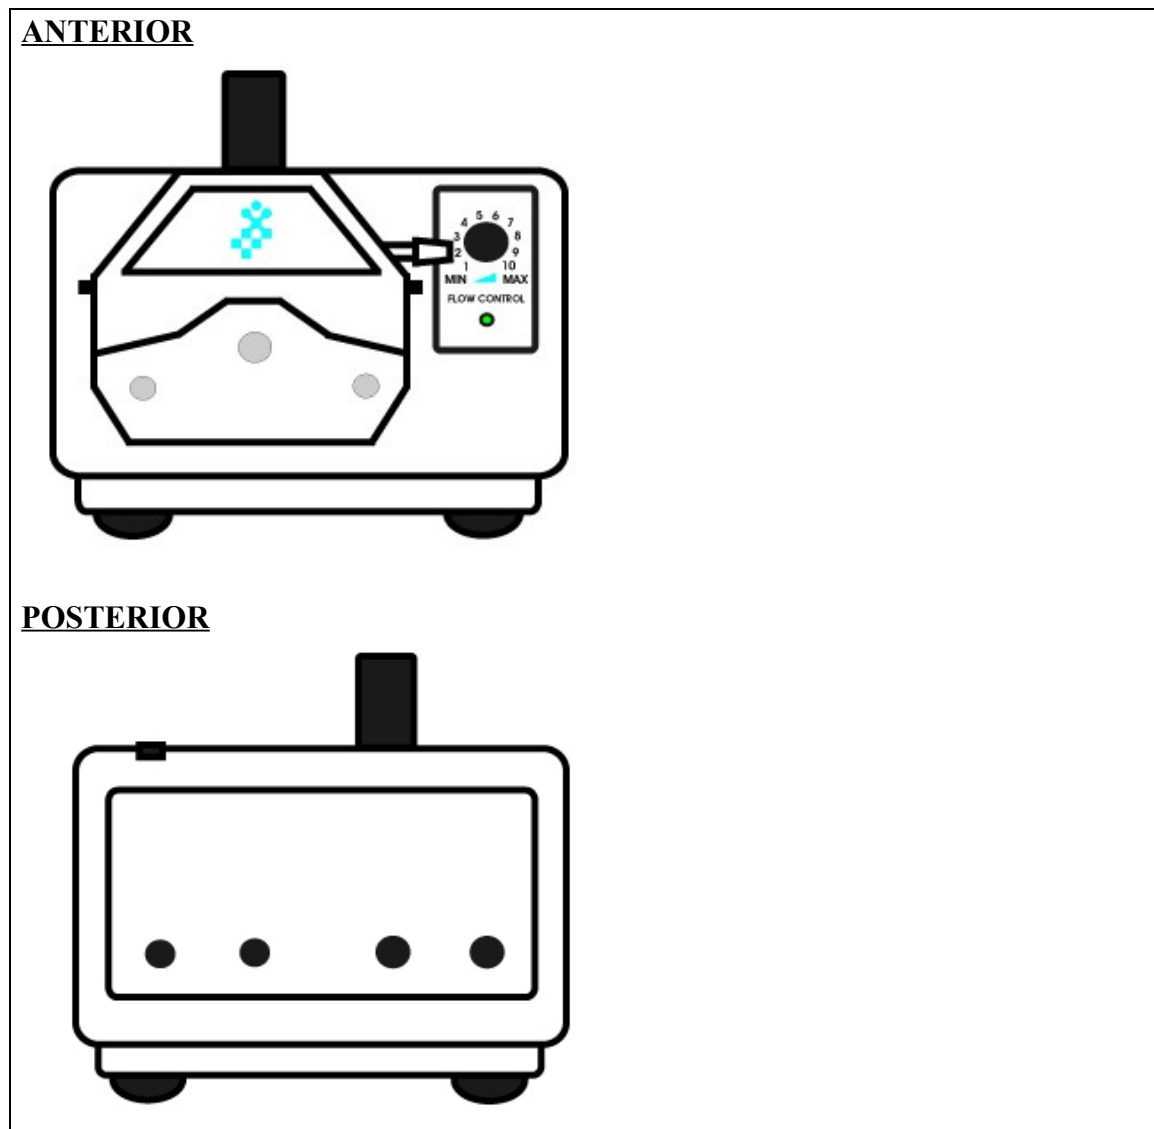

Figure 1: K Pump unit (anterior & posterior) position
The following two illustrations (Figure 1) were designed to help you to become familiar with the standard features of your K Pump:
2. Obtain the Power Adapter and insert one end into any one of the Power Inlets (See Figure 1, Page 2 – Power Inlet).
4. Lastly, take the Foot Pedal and insert the tubing end into the Bulkhead Connectors (See Figure 1, Page 2 – Bulkhead Connector).